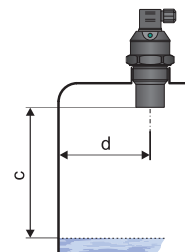

Fig. 3: Distance of the device from the tank wall
- The minimum distance from the tank wall when installing into the lid or the ceiling of the tank are listed in Fig. 3. In the case of device installation close to smooth wall of the tank it is not necessary to observe the minimum distance, conversely it is suitable to shorten this distance.